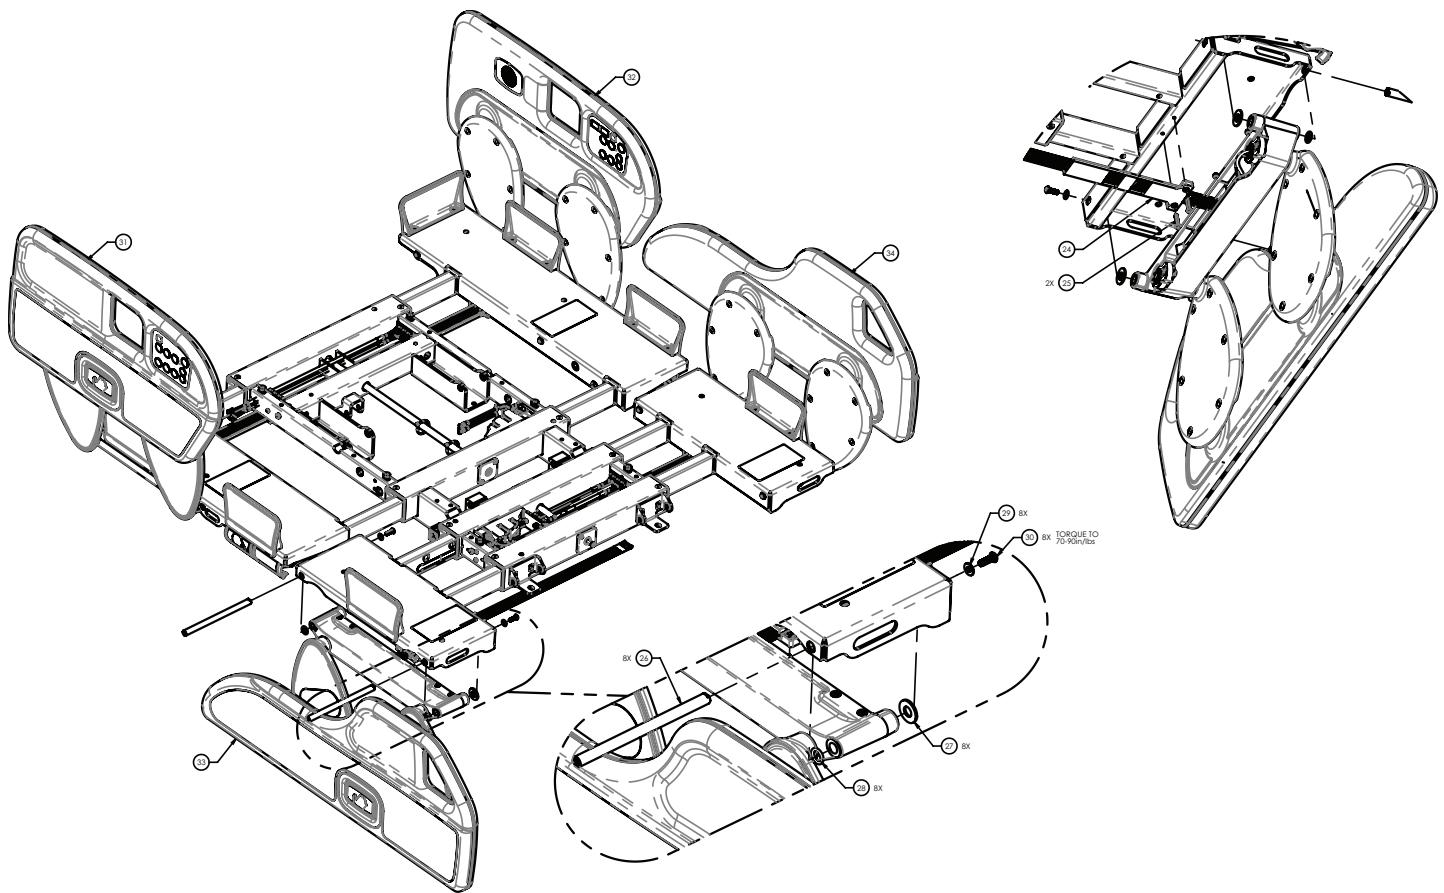

Figure 43 – Siderail replacement, foot end
8. Using a T15 Torx driver, remove the two screws (22) that secure the junction board assembly (44) to the siderail carrier (1) (Figure 43). Remove the junction board assembly.
9. Unplug the two siderail cables from the junction board assembly (44).
10. Using a T27 Torx driver, remove the screw (30) and washer (29) that secures the guide rod to the litter (Figure 43).
**Note** - Save the two rubber washers (27) on each glide rod, one on both sides of the siderail carrier, to reinstall. Use Syn-Tech grease to lube the glide rod, if required.